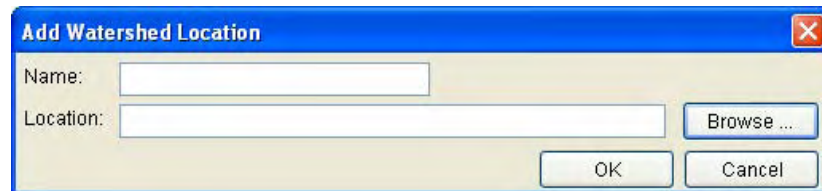

Figure 3.8 Add Watershed Location Dialog Box
3. To add a new location to the list, click the **Add Location...** button. The **Add Watershed Location** dialog box will open (Figure 3.8).